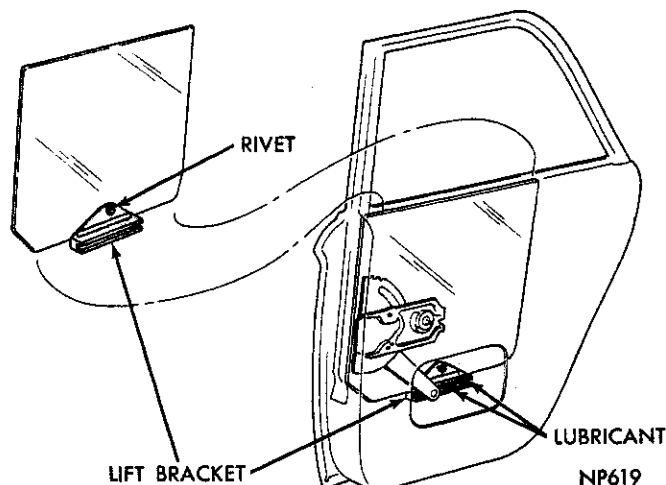

Fig. 34—Rear Door Glass Replacement—Sedan
- (2) Remove regulator arm from lift bracket channel (Fig. 34).
- (3) Remove glass from door.
- (4) Remove lift bracket from glass.